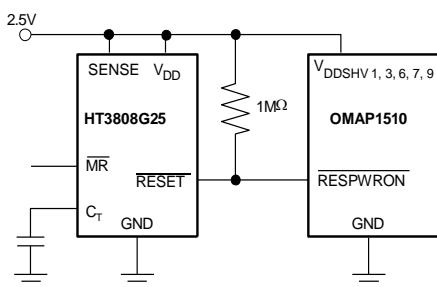

Figure 10. Typical Application of the HT3808 with an OMAP Processor
A typical application of the HT3808G25 used with the OMAP1510 processor is shown in Figure 10. The open drain RESET output is typically connected to the RESET input of a microprocessor. A pull-up resistor must be used to hold this line high when RESET is not asserted. The RESET output is undefined for voltage below 0.8V, but this is normally not a problem since most microprocessors do not function below this voltage. RESET remains high (unasserted) as long as SENSE is above its threshold (V_{IT}) and the manual reset (MR) is logic high. If either SENSE falls below V_{IT} or MR is driven low, RESET is asserted, driving the RESET pin to a low impedance.